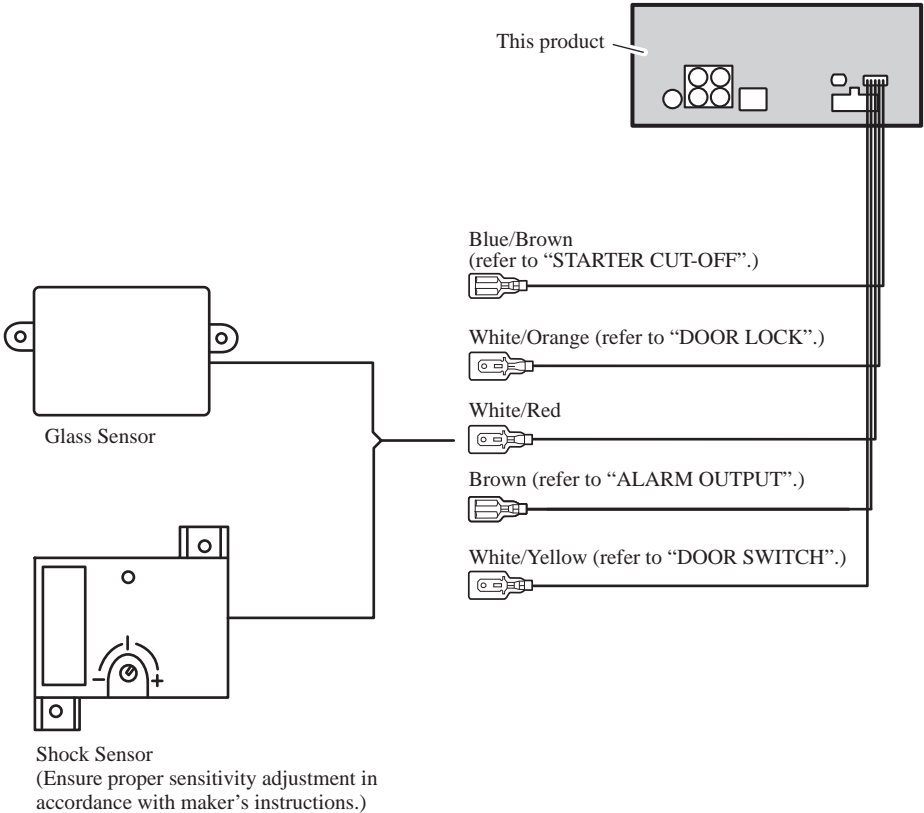

Fig. 7
- **White/Red (ALARM SENSOR)** (Fig. 7)